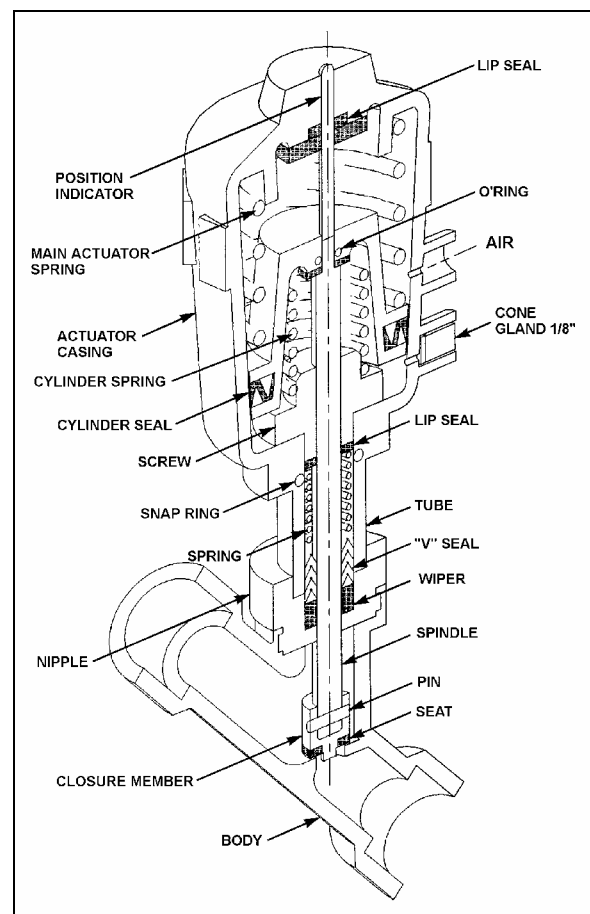

FIGURE 52: MAIN HOT VALVE PNEUMATIC WATER 22241
2. The water valve need not be removed from the line. Unscrew nipple, the actuator casing, tube, spindle and closure member can be removed (Figure 52).
2. Tighten the nipple in place in the body cavity as per Figure 52. Fasten pilot solenoid valve to the pneumatic water valve. Reconnect air supply pressure and electrical current to the pilot solenoid valve.